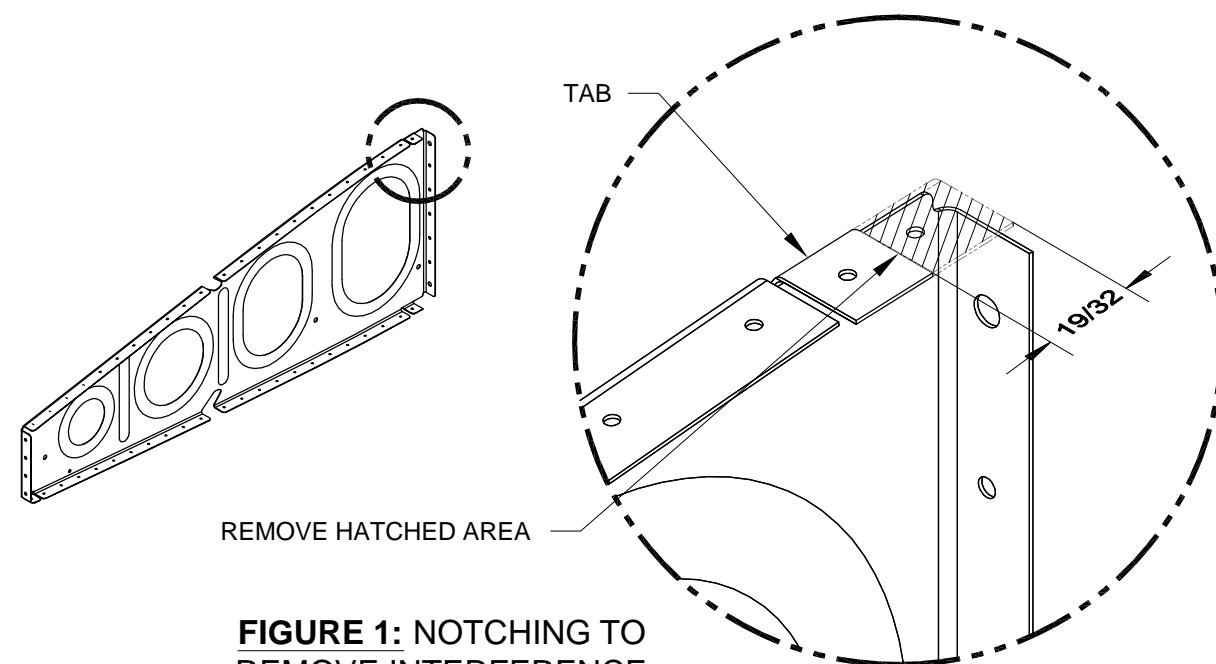

FIGURE 1: NOTCHING TO REMOVE INTERFERENCE
Step 1: Remove the flange and flange radius from the top and bottom tabs of a **single** W-1011-R Inboard Wing Rib as shown in Figure 1. This notch will remove interference between the outboard-most tank attach nutplate and the W-1011-R Inboard Wing Rib that attaches to the main spar assembly at that span wise location. The amount of trim is the same on both the top and bottom tab.
Match-Drill to #12 the upper and lower attach points on the W-1010-R and all the W-1011-L/R Inboard Wing Ribs that will be attached with bolts to the main spar assembly (see Page 14-6, Figure 1), using the holes in the main spar assembly as a drill guide. Use a wood block to support the forward flange of the ribs while drilling.